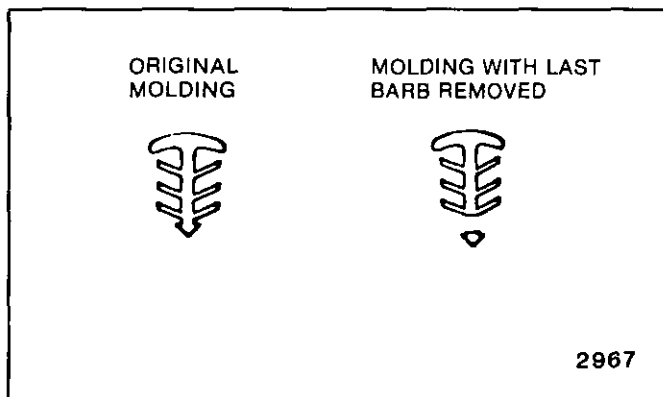

Fig. 2 - Removing Reveal Molding Barb
→← Install or Connect (Figs. 2, 3, 4)
1. To reuse original reveal molding, trim off barb and prefit in cavity (Fig. 2).